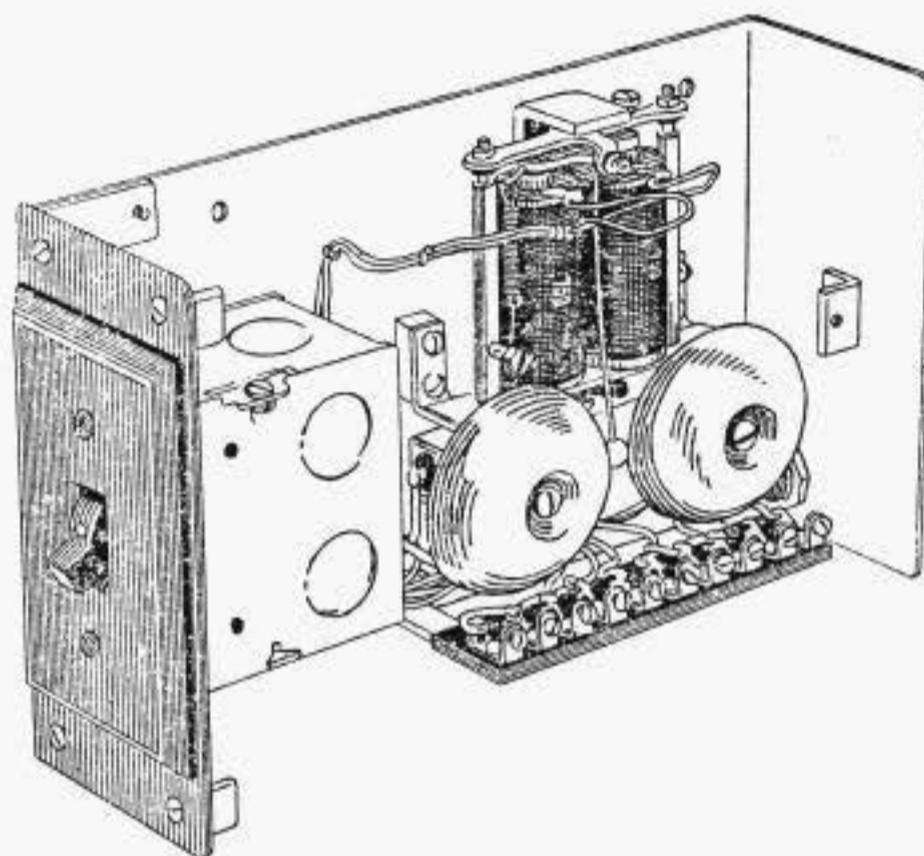

Fig. 2—125-A-1 Set
8.05 A view of the inside of the 125-A-1 subscriber set is shown by Figure 2.